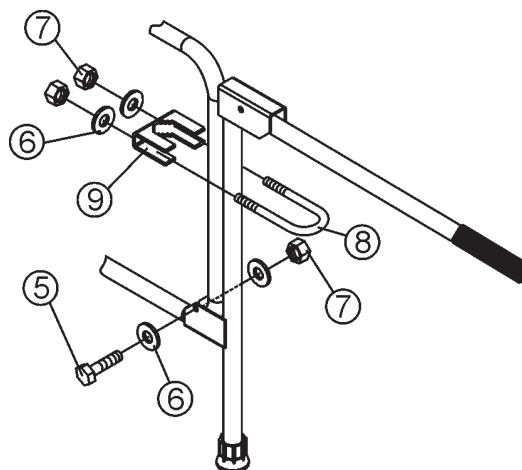

Figure 4. Securing the Handle Mount to the Frame.
5. Lifting the front of the unit, set the rounded corner of the frame tubing in the bracket on the handle mount (Figure 4). Place a **screw** (Item 5) and **flat washer** (Item 6) through the holes, securing the tubing in place. Place another flat washer and a **nylock nut** (Item 7) on the threaded end of the screw and tighten.